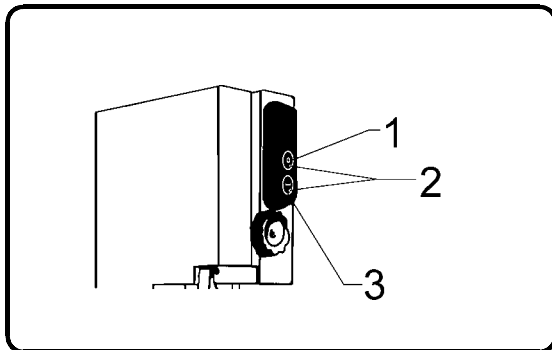

Fig. 5.3.1
5.4 Stopping the saw (Fig. 5.3.1)
5.3 Starting the saw (Fig. 5.3.1)